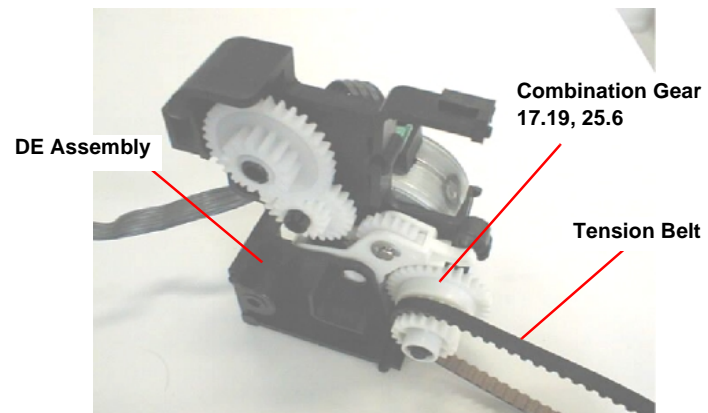

Figure 4-27. Setting the Tension Belt to 17.19 Gear
- Set the Tension Belt to the 17.19 gear of the Combination Gear 17.19, 25.6 before securing the DE unit to the Middle Frame. Refer to Figure 4-27.